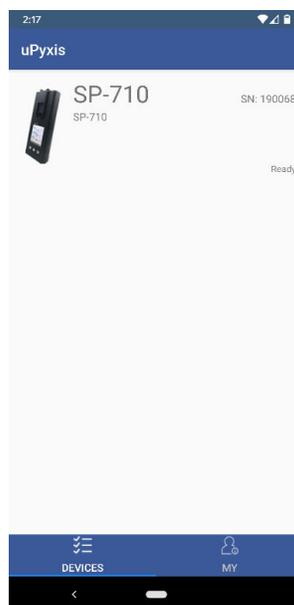

Figure 63.
4. If the connection is successful, the SP-710 and its Serial Number (SN) will be displayed (Figure 63).